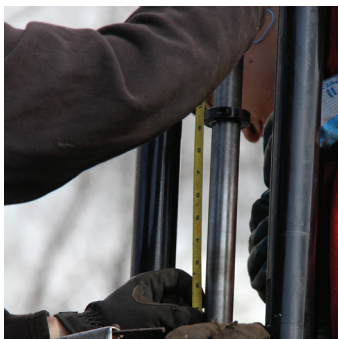

Figure 14
3.1.8) Tighten the stop collar to the correct measurement (see Figure 14).